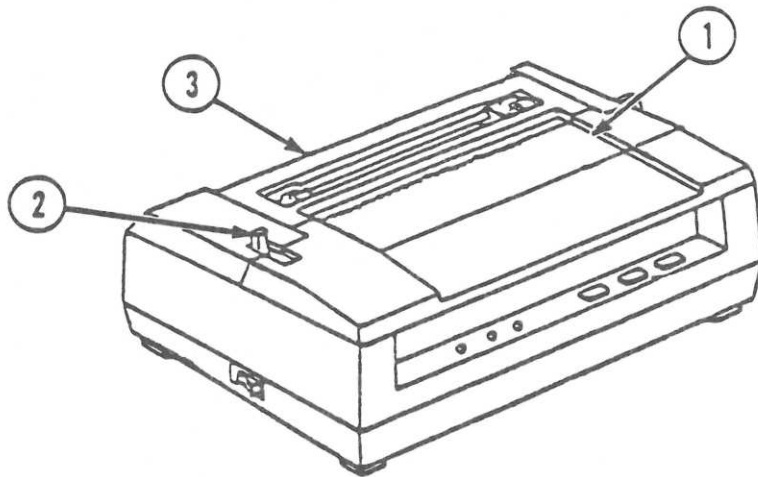

FIGURE 1
(See Figure 1, #1.)
(See Figure 1, #2.)
4. Remove the paper cover. (See Figure 1, #3.)